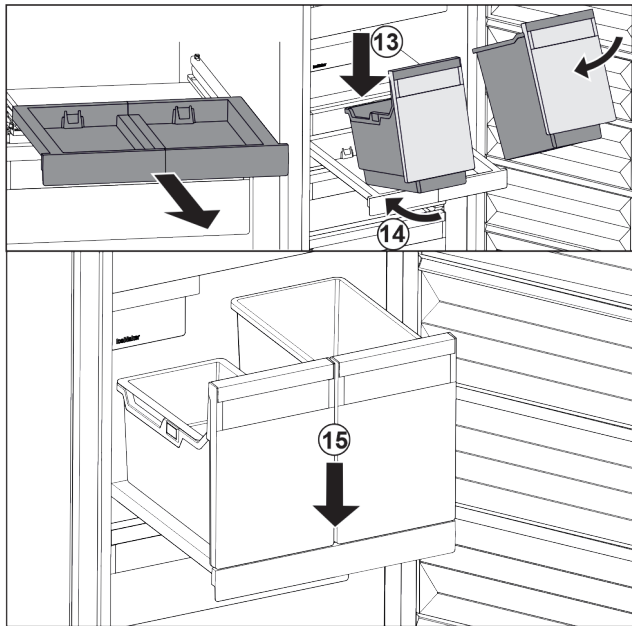

Fig. 100
- ▶ Place the container at an angle on the pull-out board. Fig. 100 (13)
- ▶ Slide the container to the back at an angle. Fig. 100 (14)
- ▶ Place container in the front. Fig. 100 (15)